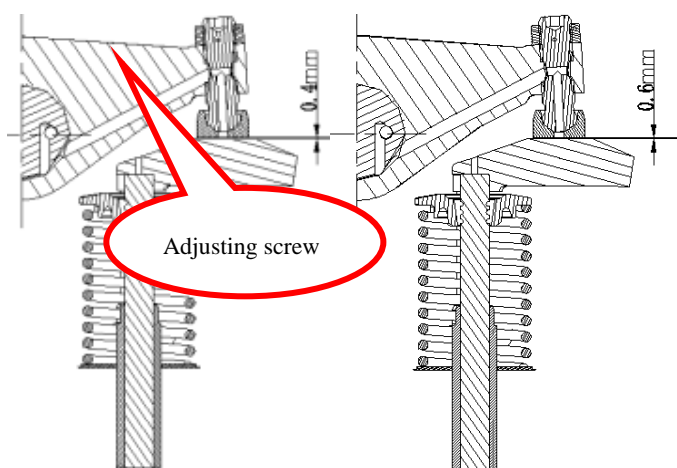

Figure 5-10 Cold state valve clearance: intake valve, 0.4mm; exhaust valve, 0.6mm
- c. Use a feeler gauge to check the clearance between the upper plane of valve bridge and rocker arm. For WP10 diesel engine, the intake valve clearance and exhaust valve clearance should be 0.4mm and 0.6mm respectively. Please rotate the adjusting screw on the rocker arm to achieve proper valve clearance. See figure 5-10.